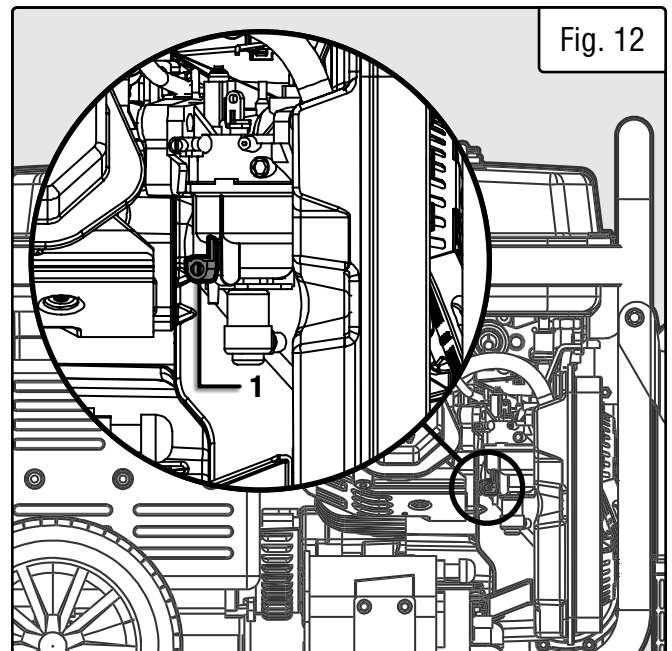

Fig. 12
2. The carburetor can be accessed from the backside of the generator between the engine and the air filter. To drain the carburetor, open up the carburetor drain screw (Fig. 12 - 1) with a Phillips-head screwdriver (not included) and drain out any gasoline that has built up inside.